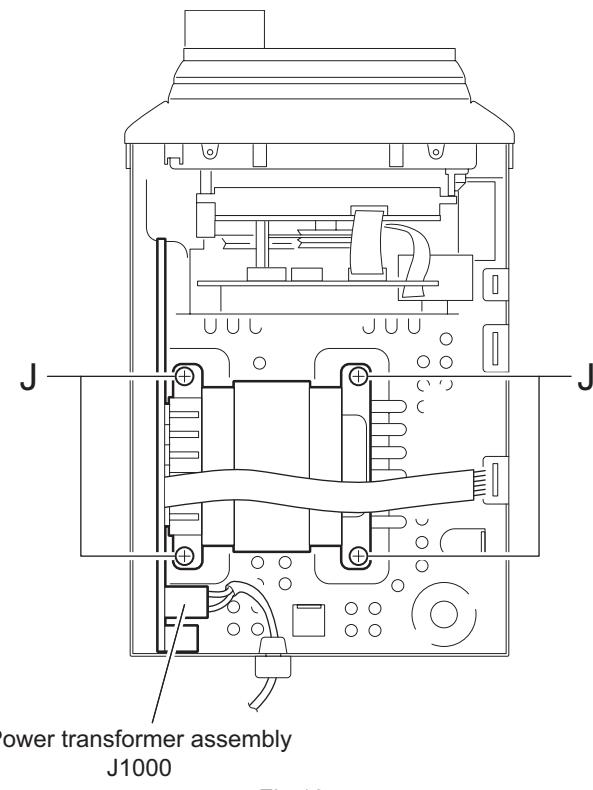

Fig.12
2.1.7 Removing the power transformer assembly (See Fig.12)